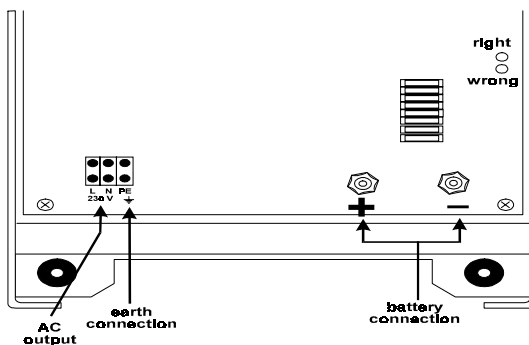

Fig. 2
- The connection points are located on the printed circuit board in the converter, see Fig. 2.